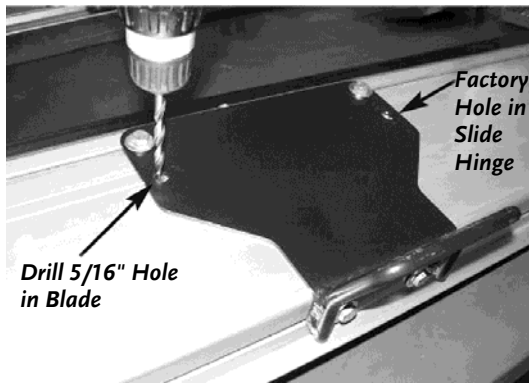

Figure 15
15. Using 5/16" bit, drill a hole through blade in each factory punched hole on slide hinge (**Figure 15**). Turn a (short) 3/8" self threading bolt into each drilled out hole and tighten. Repeat steps to attach opposite slide hinge.